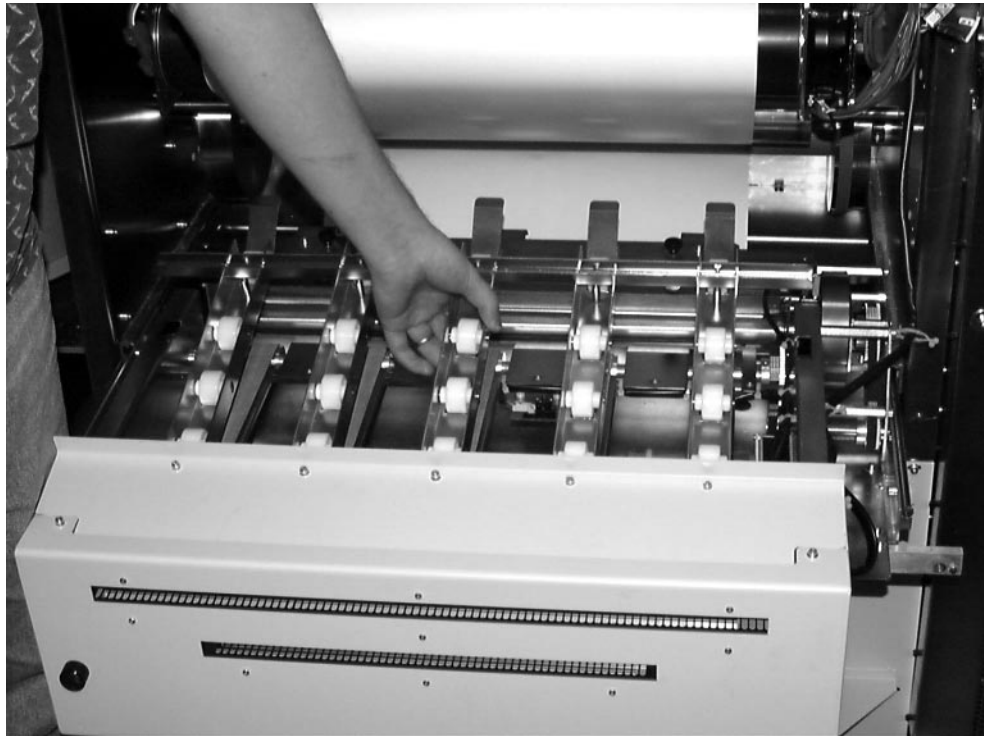

Figure 332. Cutter Assembly Roller Assembly
20. Lift up the roller assembly, as shown in Figure 332 on page 338.